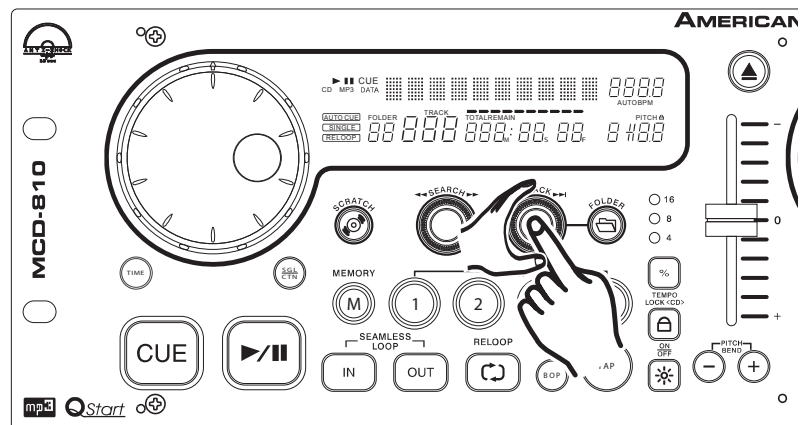

Figure 40
Using the Pitch Slider Percentage Selector (3): You may choose a pitch operating range at any time. To change the operating range be sure the pitch function is turned on, see figure 40. The pitch percentage can be changed between +/-4%, +/-8%, +/-16%, and +/- 100%. 4% will allow the least amount of pitch manipulation and 100% will allow the most amount of pitch manipulation. To adjust the different values, tap on the % **BUTTON (3)** until your desired value is reached. The L.E.D. of the % **BUTTON (3)**; glowing red for 4%, flashing red for 8%, glowing blue for 16% or flashing blue for 100%.